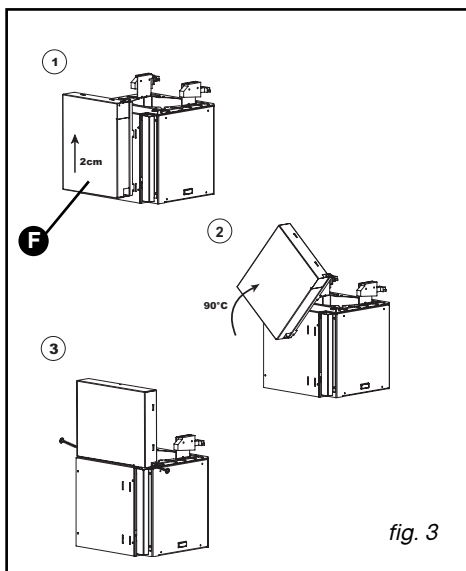

fig. 3
- Lift the unit around 2 cm then release it. Give it a quarter turn then slide it and fasten it using 2 screws above the motor (fig. 3).